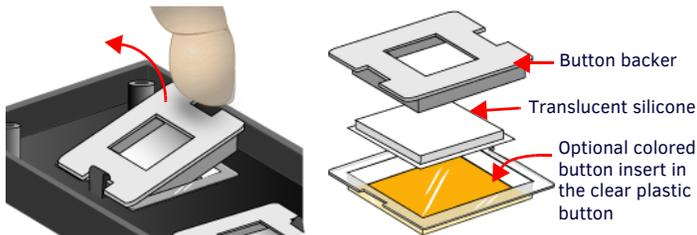

FIG. 8 INSTALLING BUTTON INSERTS
3. Using a finger, lift one of the latched sides of the button backer to tilt it up and get it past the latch (FIG. 8). The silicone pad may separate from the backer, just push it back inside.